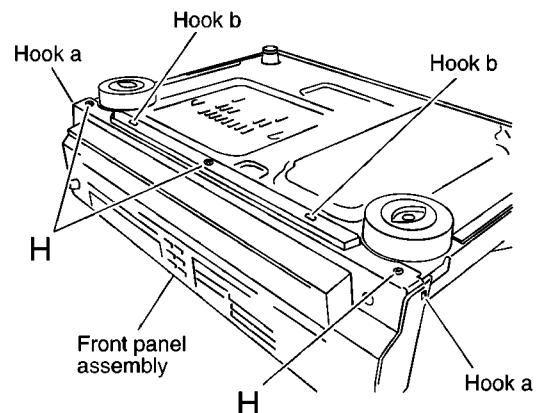

Fig.8
■ Removing the front panel unit (see Fig.8~10)